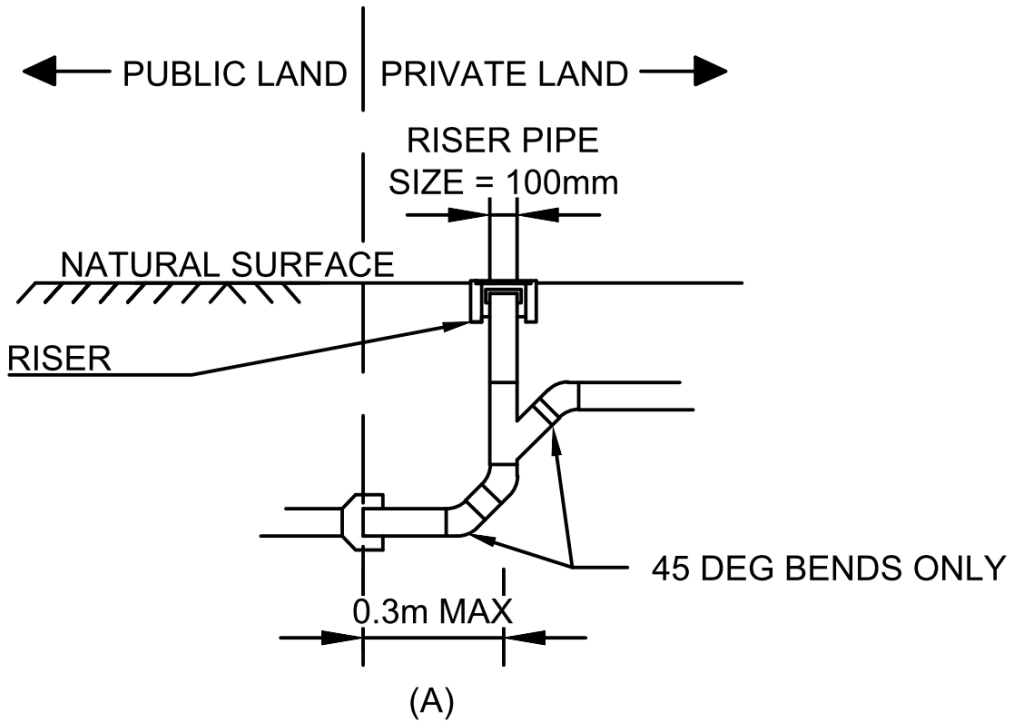
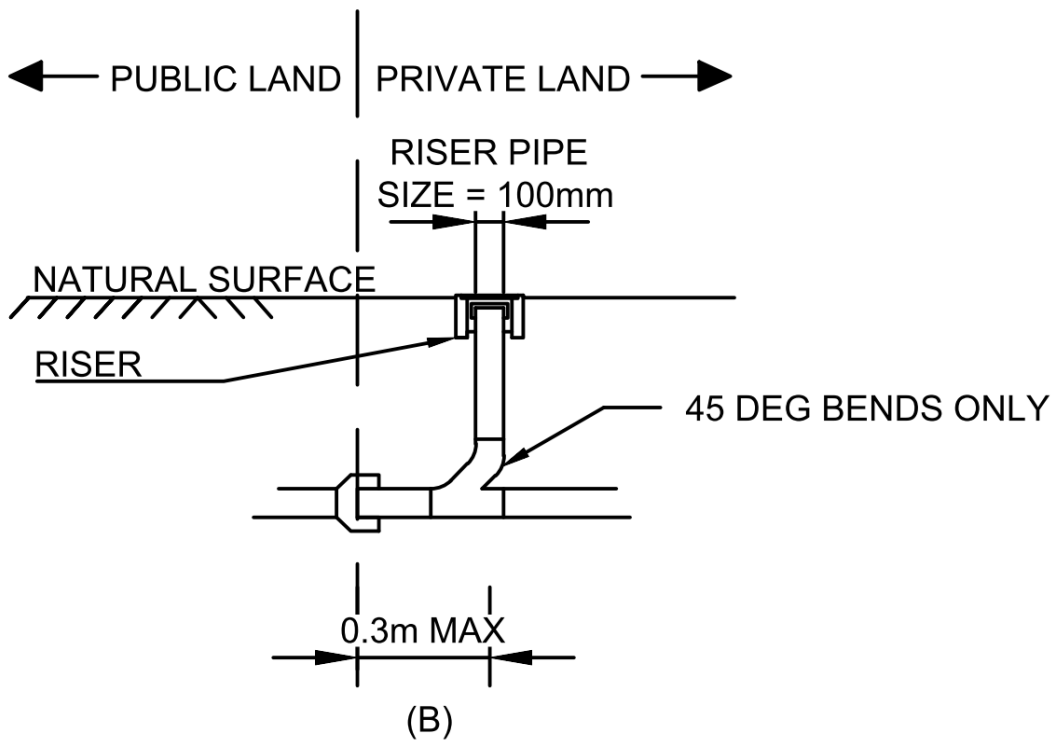

Figure 2 - Riser Installation Diagram A
Figure 3 - Riser Installation Diagram B
- 3.8 The riser must conform to plumbing standards (AS3500.3 2003), and be of satisfactory quality to warrant reimbursement. See Figure 2 - Riser Installation Diagram A, and Figure 3 - Riser Installation Diagram B, for further specifications of pipe sizes and bend requirements.